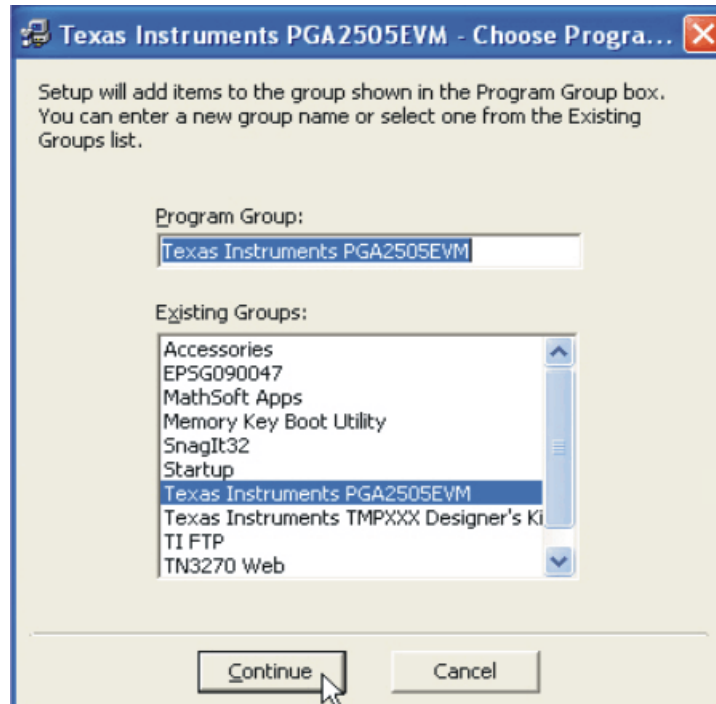

Figure 9. PGA2505EVM Software Program Group Selection Panel
- Step 4. The PGA2505EVM software installation will prompt you for a Program Group. Click on *Continue* to continue the installation or select a different Program Group from the available selections, as shown in Figure 9.